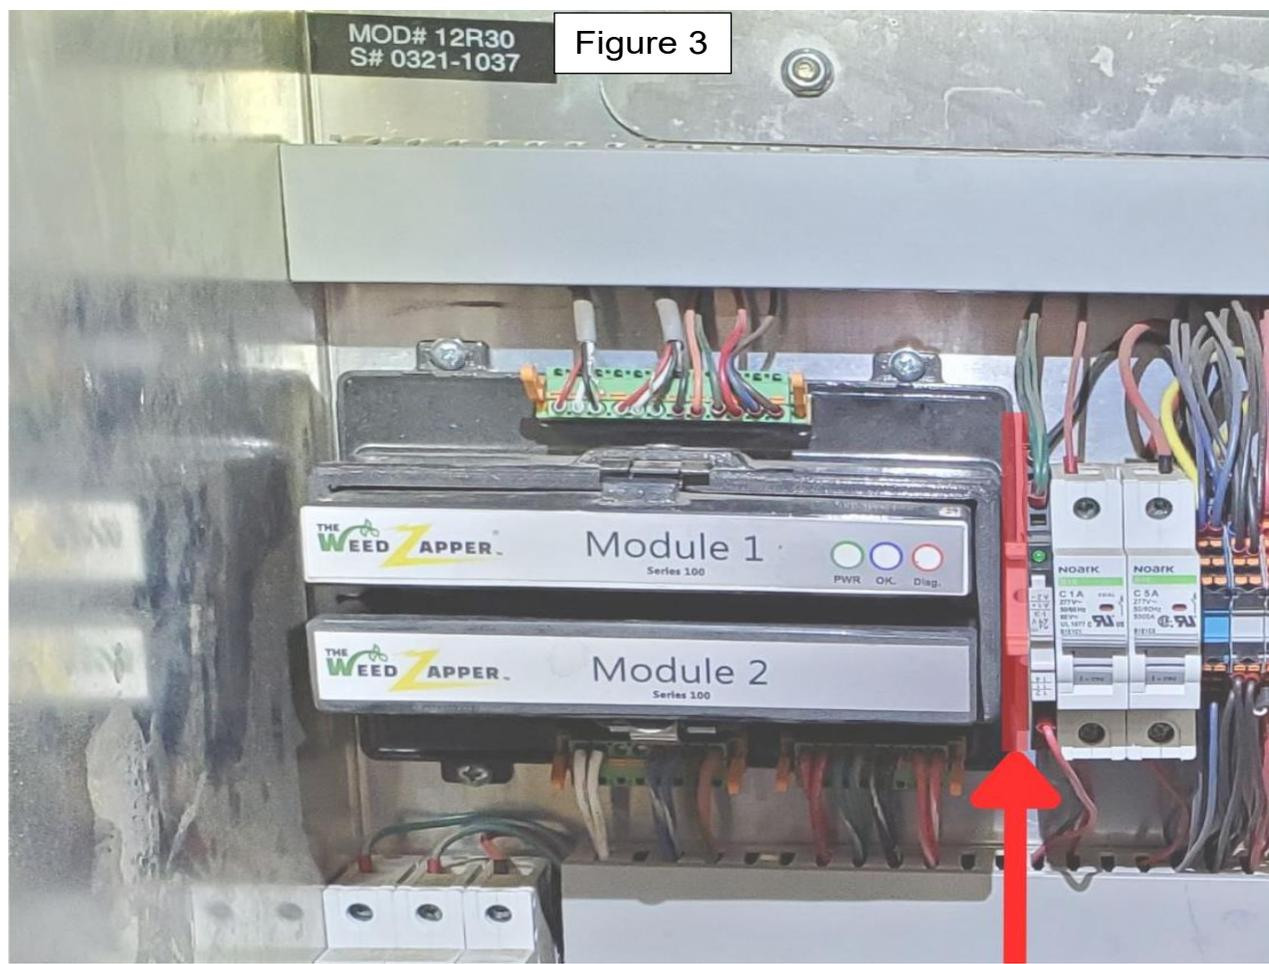

Figure 4
7. Install the new Series 200 module using the four Phillips-head screws and existing holes. (see Figure 4)